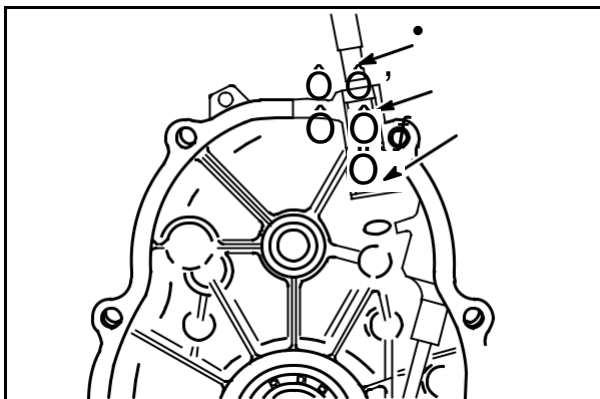

Fig. 9
Press out upper bushing (2) using Bushing Driver #19204 (1), **Fig. 9**.